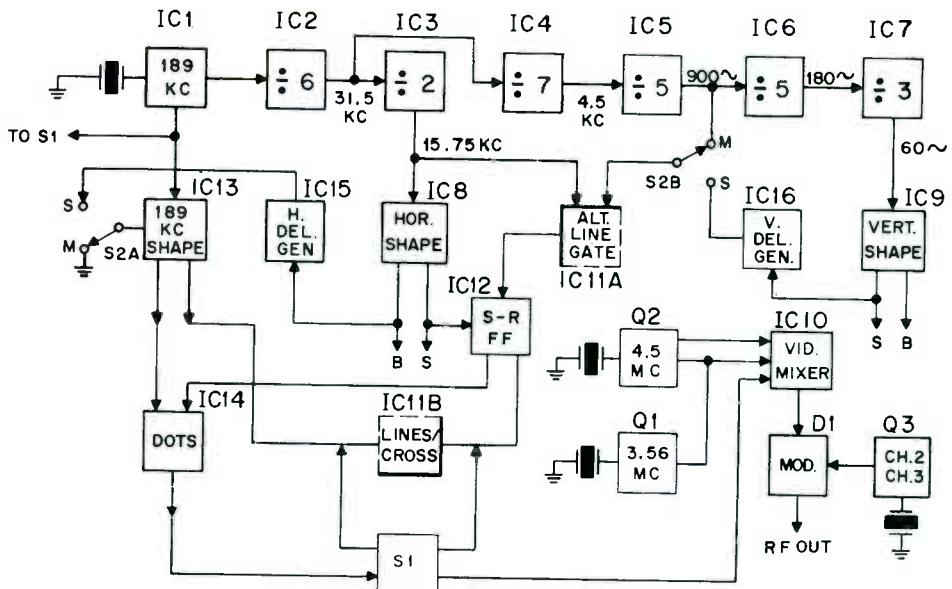
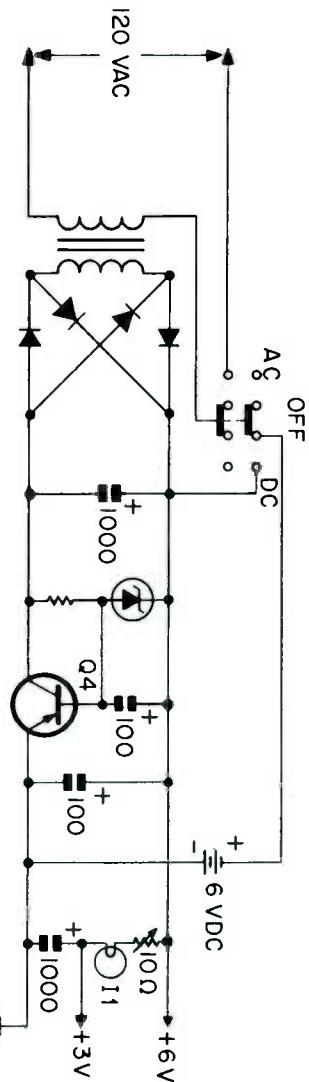

Fig. 6. Block diagram of the CONAR Model 680 Color Generator.
Fig. 7. Model 680 power supply.
Before looking at the individual circuits of the Model 680, let us examine the overall block diagram as shown in Fig. 6. The various timing signals are produced by the 189 kc crystal oscillator, IC1, and the chain of six dividers. The 189 kc oscillator is unusual in that it (1) uses an IC, and (2) produces complementary square wave outputs (complementary means two outputs are available, 180° out-of-phase). One of the 189 kc outputs drives the divider chain, IC2, IC3, IC4, IC5, IC6, and IC7, as shown to provide three useful output pulses - 15,750 cps, 900 cps and 60 cps. The 15,750 cps and 60 cps outputs of the divider chain are shaped by IC8 and IC9 to form horizontal and vertical sync AND blanking pulses which are fed to the video mixer, IC10.
Assuming for the moment that S2 is in the position shown in Fig. 6 (M is for "multiple"), we will now see how the convergence patterns - dots, crosshatch,
Not shown in the block diagram of Fig. 6 is the power supply for the Model 680. Both battery and ac operation are provided in the power supply section of the 680. This is practical because of the low power requirements, less than one watt at 6V dc. On ac, a full-wave rectifier is used whose output is stabilized at approximately 6V by a Zener diode and transistor electronic filter shown in Fig. 7. This combination provides good regulation of the output voltage for line voltage variations from 100V to 140V ac.
The integrated circuits require a nominal 3.0 volts for their operation, while the three crystal oscillators operate from the 6V supply. Since the 3.0V load is a constant load, it can be very simply obtained by dropping the regulated 6V supply with a dropping resistor. As shown in Fig. 7, this dropping resistor combines a potentiometer (10 ohms) and a pilot lamp, I₁. Using the lamp for a dropping resistor gives us a "free" pilot lamp on both ac and dc operation. The potentiometer allows compensation of the 3V